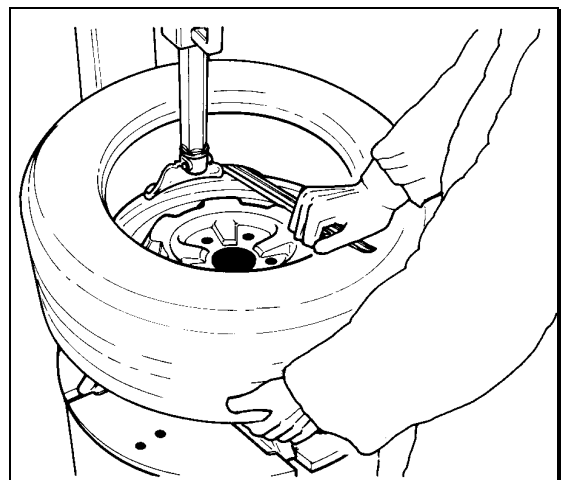

Fig. 17
**H.** Repeat the process for removing the lower bead. This time, lift the bead opposite to the mount/demount head to keep it in the drop center (Fig. 17). Move the swing arm aside and remove the tire.